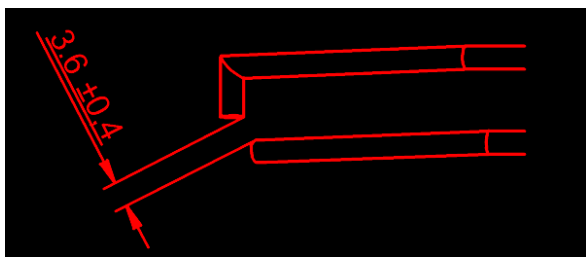

Figure 29 - Distance between the two electrodes
- b. The distance between the two electrodes should be $3.6 (\pm 0.4)$ mm (figure 29).